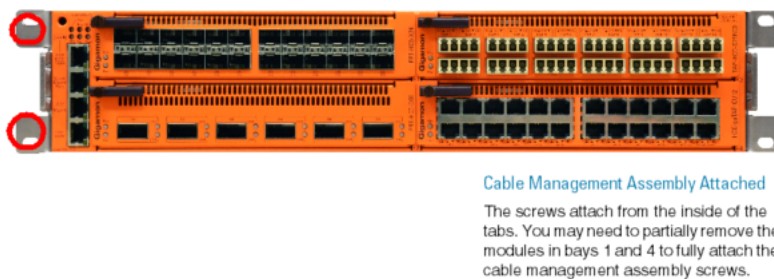

Figure 8 Cable Management Assembly Attached to Node
If you installed the custom rack ear for the cable management assembly in Step , you can now attach the assembly using the four screws provided. The screws attach through the recessed holes on the inside of the rack ear and into the cable management assembly, as shown in Figure 8 Cable Management Assembly Attached to Node.
4. As shown in Figure 8 Cable Management Assembly Attached to Node, the thumb screws on the cable management assembly's front panel allow quick removal and reattachment whenever you want to route cables.